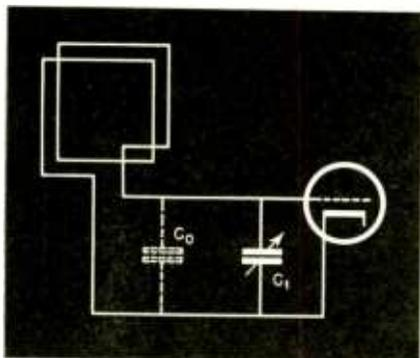

Fig 4. High impedance loop circuit
These factors alone are not all that need be considered in the design of a high-impedance loop. The large number of turns required increases the distributed capacity of the winding which in turn decreases the Q of the loop. A high distributed capacitance plus high-capacity connecting leads also limits the tuneable frequency range of the circuit. The frequency range is determined by the percent capacity change in the circuit. This is shown in Fig. 4 and equation (2) where C_o = circuit capacity (including distributed